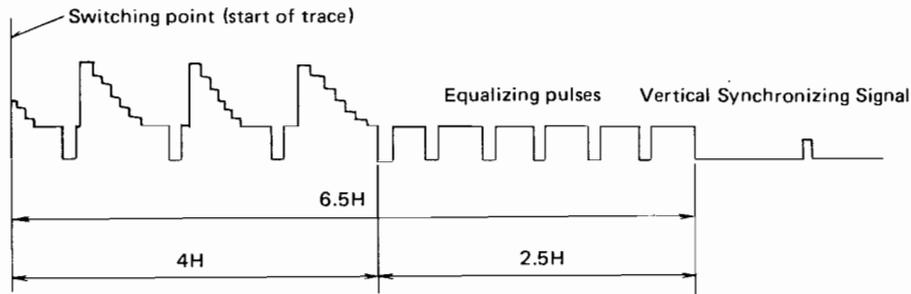

Fig. 2-2 Switching Point
3. Adjust VR403 so that the trigger position is located at $6.5 \pm 1H$ before the vertical synchronizing signal. (Refer to Fig. 2-2)